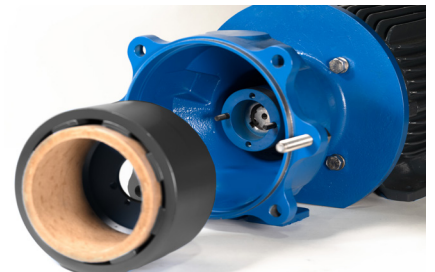

figure 5
- Using the threaded studs in the shaft adapter as a guide, slide the magnet hub onto the shaft adapter. The magnet hub and shaft adapter are held in close tolerance to one another. Use two M8-1.25 hex head bolts to draw the hub onto the adapter as necessary. See figure 5. Avoid hitting the outer edge of the magnet hub as impact can damage the glue bond between the magnet and the hub.